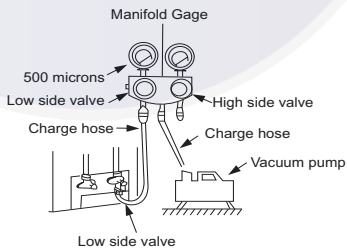

Fig. 15 — Manifold
3. Fully open the low side of manifold gage (see Fig. 15).